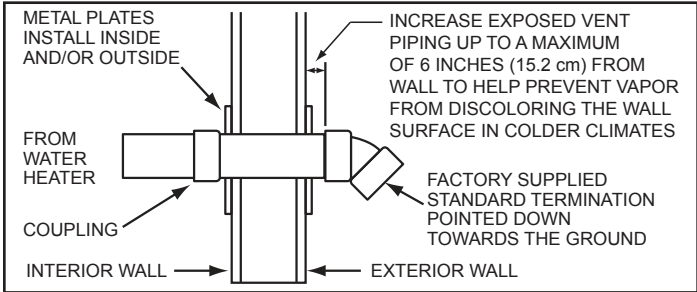

Figure 26. Side-Wall Termination Installation
9. Cut a length(s) of pipe being installed 3.5 inches (8.9 cm) to 9.5 inches (24.1 cm) longer than the wall thickness at the opening. See **Figure 26** (page 28).
12. Working from outside, slide the pipe and termination(s) assembled in the above steps through the wall. Ensure the termination(s) is pointed down towards the ground. See **Figure 26**.
16. Install a coupling to the end of the pipe(s) inside the building. Before the silicone caulking has time to completely set go outside the building and ensure the termination(s) is still pointing down towards the ground. See **Figure 26**.